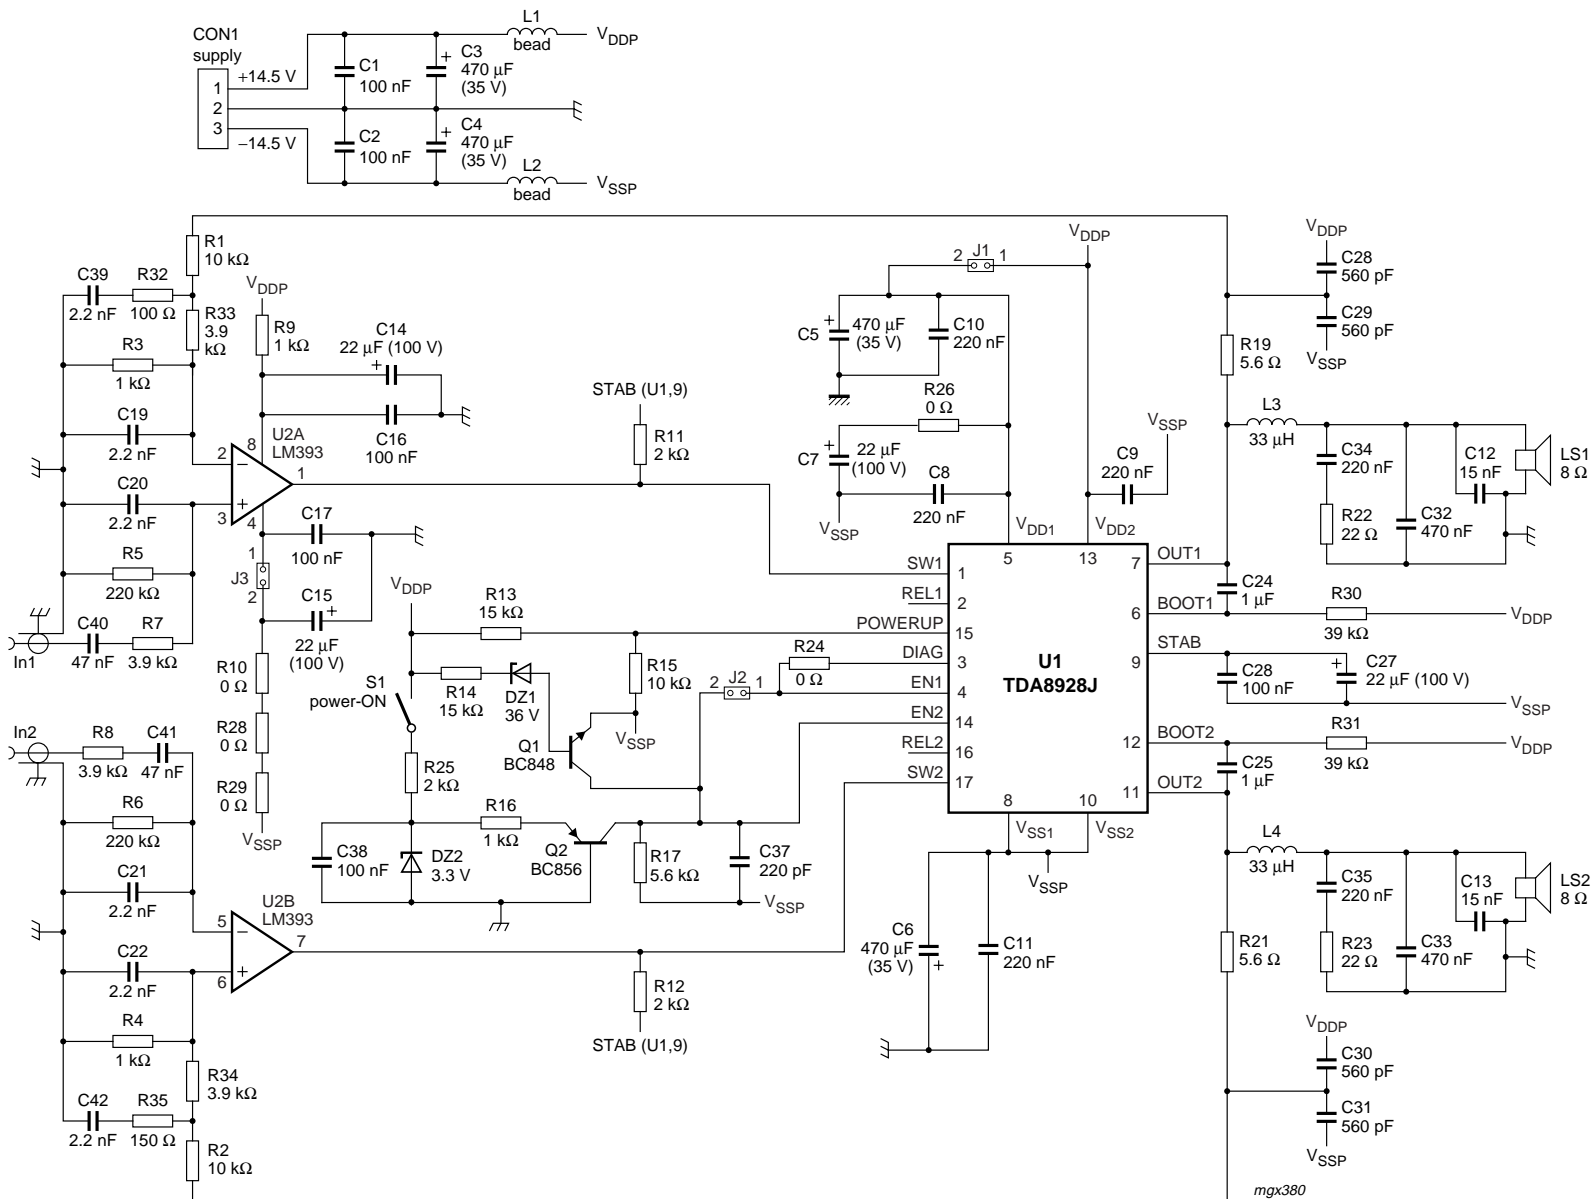
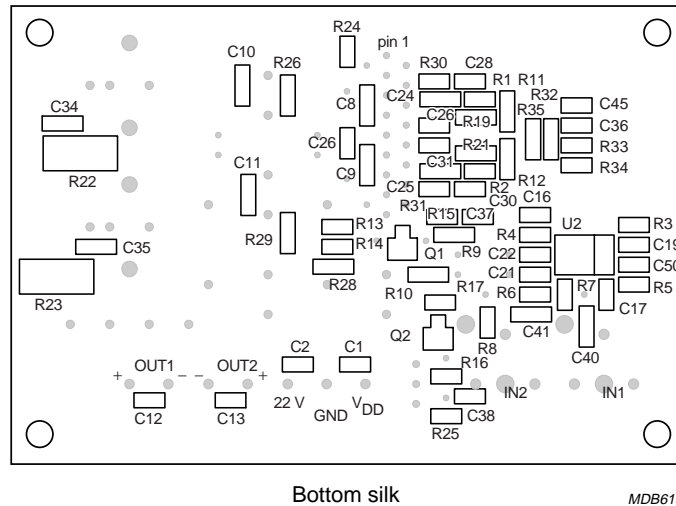

Fig.5 Single-ended self oscillating class-D system application diagram for TDA8928J.
Fig.6 Printed-circuit board (bottom silk) layout for TDA8928J.
- $V_P = \pm 12.5$ V; $R_L = 8 \Omega$; $f_i = 1$ kHz; $f_{osc} = 310$ kHz; $R_S = 0.1 \Omega$ (series resistance of filter coil); $T_{amb} = 25$ °C; measured in reference design (SE application) shown in Fig.5; unless otherwise specified.
- Total Harmonic Distortion (THD) is measured in a bandwidth of 22 Hz to 20 kHz (AES 17 brickwall filter). When distortion is measured using a low-order low-pass filter a significantly higher value will be found, due to the switching frequency outside the audio band. Measured using the typical application circuit, given in Fig.5.
For a SE application the application diagram as shown in Fig.5 can be used.
The reference design for a self oscillating class-D system for the TDA8928J is shown in Fig.5. The Printed-Circuit Board (PCB) layout is shown in Figs 6, 7 and 8. The bill of materials is given in Section 15.4.2.